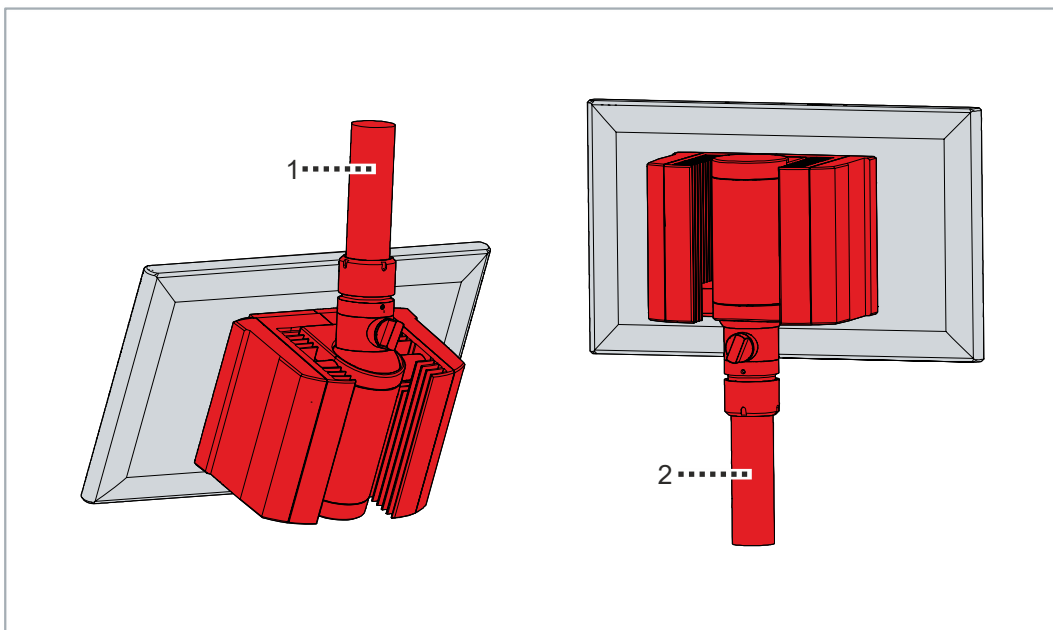

Fig. 6: Mounting arm adapter
Figure 6 shows the standard variant with mounting arm adapter from above (1) and the option with mounting arm adapter from below (2). Regardless of whether the mounting arm adapter is aligned upwards or downwards, it has a locking screw to prevent it from rotating and can be swiveled by $\pm 165^\circ$. The adapter adapts the panel PC with a 48 mm circular tube. The permissible tolerance of the pipe diameter is -0.1 to $+0.8$ mm.